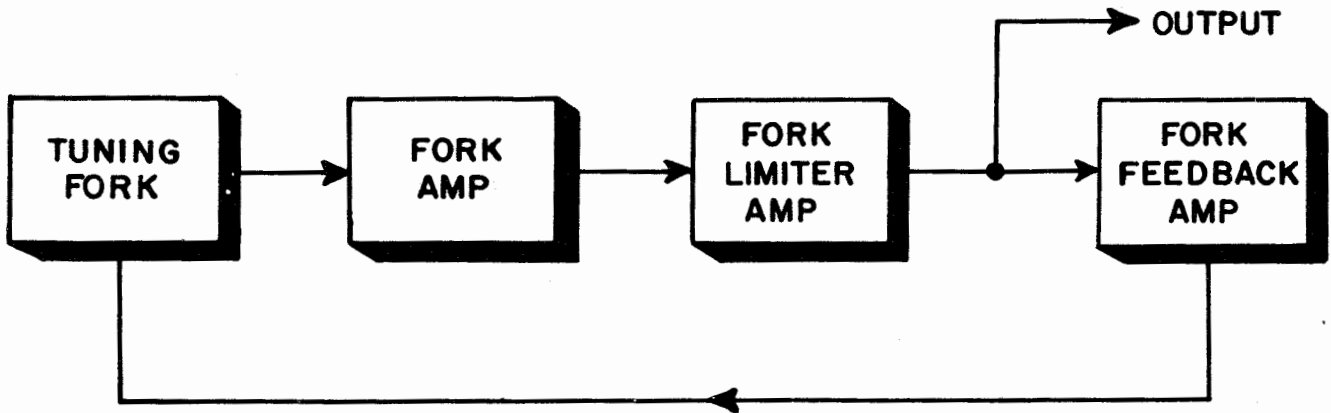
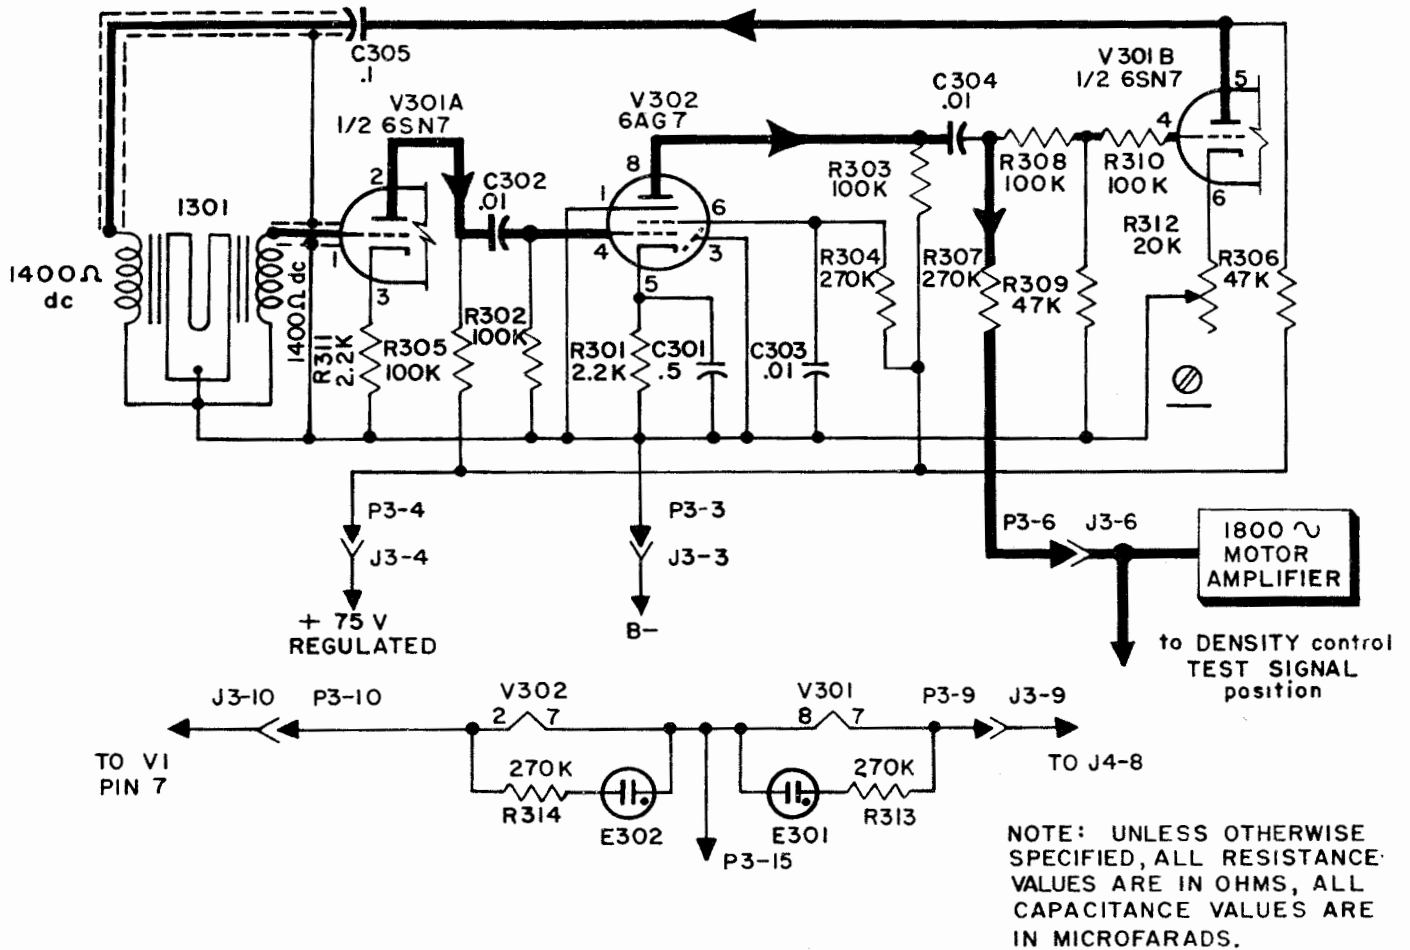

Figure 2-7. Block Diagram of Audio Frequency Oscillator
Figure 2-8. Schematic Diagram of Audio Frequency Oscillator
(7) PLATE VOLTAGE.—The 15 kc oscillator and modulator require a +75 volt regulated power supply, obtained from the amplifier-power supply chassis through P4-pin 2. Plate voltage for the print driver is obtained through transformer T3, on the amplifier-power supply chassis. The phasing detector and pulse amplifier require a high voltage, +300 volts, obtained from the amplifier-power supply chassis through P4-pin 5. The B— lead connects through P4-pin 10.
(8) FILAMENT VOLTAGE.—The filament of V202, a 6SL7, connects between B—, P4-pin 10, and P4-pin 7 to form a parallel connection with a second 6SL7, V102, on the amplifier-detector subassembly. The filaments of V201, a 6SN7, and V203, a 2D21 thyatron, form part of the series filament string connecting through P4-pin 9 and P4-pin 11. Across the filament of each tube is connected a neon tube in series with a 270K limiting resistor, to indicate a burned out filament.
d. AUDIO-FREQUENCY OSCILLATOR.—The fork controlled audio-frequency oscillator, a plug-in sub-assembly located on the left side of the recorder, generates an 1,800-cycle signal for synchronous motor operation and for use as a test signal. The unit consists of an 1,800-cycle tuning fork, whose output is amplified by three stages of amplification, with positive feedback to drive the fork. (See block diagram, figure 2-7, the unit circuit schematic, figure 2-8, and the overall circuit schematic, figure 7-13.)
(1) TUNING FORK.—The 1,800-cycle tuning fork, I301, has a pick-up coil which provides a signal to the first amplifier stage, V301A, and a drive coil which accepts a feedback signal from the power amplifier stage, V301B.
(2) FORK AMPLIFIER.—The 1,800-cycle fork signal from the fork pick-up coil is applied through a shielded lead to the grid of the fork amplifier, V301A, a half section of a 6SN7. V301A is a Class A amplifier with an unbypassed cathode resistor R311 (2.2K) to provide inverse feedback for this stage to stabilize the circuit. The amplified 1,800-cycle signal is resistance-coupled through capacitor C302 (0.01 mf) to the control grid of V302, a 6AG7.
(3) FORK LIMITER AMPLIFIER.—The fork limiter amplifier stage, V302, is connected as a conventional pentode amplifier. Sufficient signal is delivered to the control grid of this stage to cause plate current limiting. This action results in a constant level output, regardless of the input signal received from V301A over the operating range of the fork.